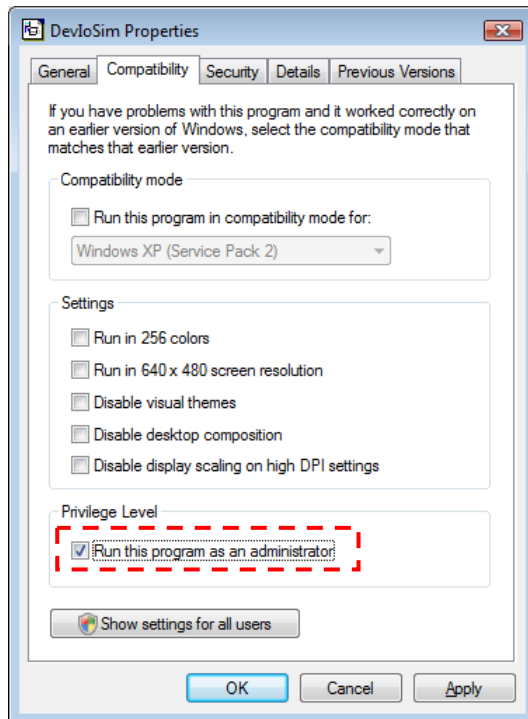

Figure 7.1
2. Make sure that the DT-X7 **Device Emulator** has started up on the screen. See Figure 7.1.
5. If Figure 7.1 and Figure 7.2 appear on your PC, you are ready to use the emulator.